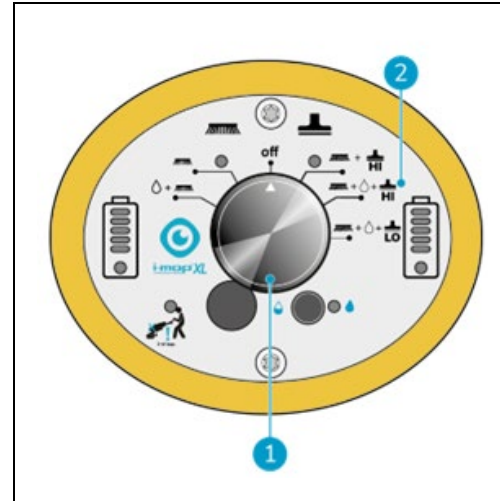

Figure 29
2. Use the i-mop XL Pro main switch (Figure 29, pos. 1) and choose MODE 4 Brush + Water/Cleaning solution + Dry vacuum (Figure 29, pos. 2).